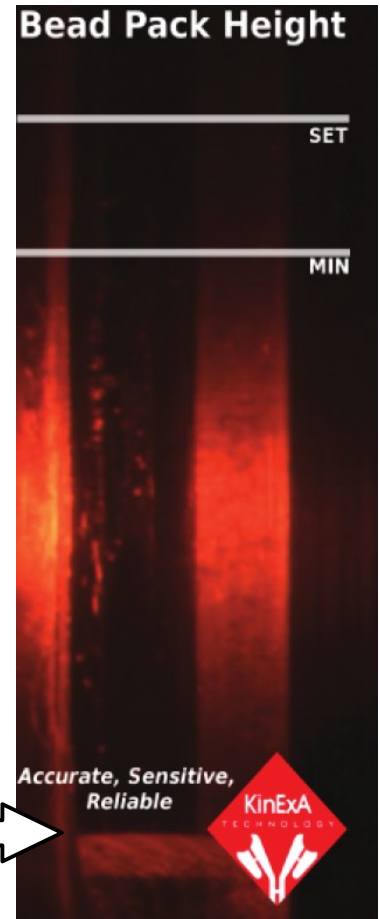

Figure 4: Camera image of properly aligned Flow Cell.
- Look at the camera image and fine tune the alignment so that the top of the filter is in line with the corner of the KinExA Technology Logo (**Figure 4**).